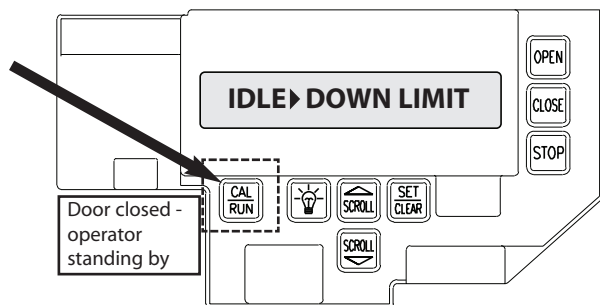

Figure 2
- 1) Press CAL/RUN to enter calibration mode. **Fig. 2.**